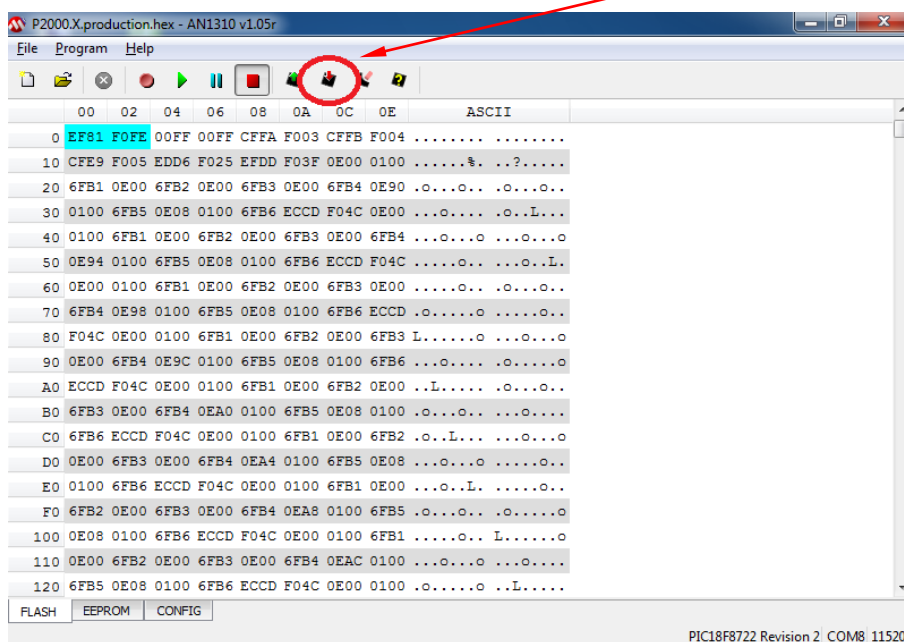

Figure 3.21
8. The bootloader screen will show new hexadecimal values. Click the **Write Device** button (Figure 3.21).